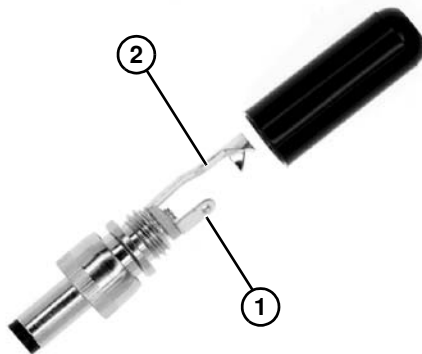

Figure 18
2. Wire and solder DC power to the two terminals of the provided DC power plug. Wire +VDC to the short lug (**Figure 18, item 1**) and -VDC to the long lug (**Figure 18, item 2**).